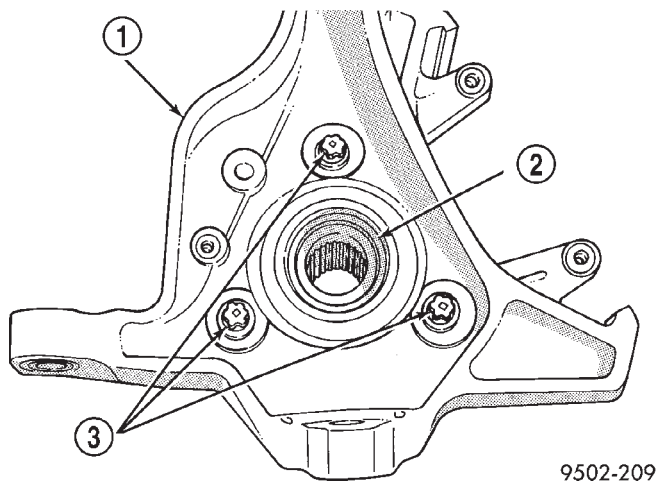

Fig. 39 Hub/Bearing Attaching Bolts
(17) Remove steering knuckle from vehicle.
(18) Mount steering knuckle securely in a vise.
(19) Remove the 3 bolts (Fig. 39) attaching the hub/bearing assembly to the steering knuckle.
(1) Thoroughly clean all hub and bearing assembly mounting surfaces on steering knuckle.
(2) Install the replacement hub and bearing assembly in steering knuckle aligning bolt holes in bearing flange with holes in steering knuckle.
(3) Install the 3 mounting bolts (Fig. 39) and tighten evenly to ensure bearing is square to face of steering knuckle. The tighten the 3 mounting bolts (Fig. 39) to a torque of 110 N·m (80 ft. lbs.).
(4) Slide drive shaft back into front hub and bearing assembly.
(5) Install the steering knuckle on the lower control arm ball joint.
(6) Install the steering knuckle to lower ball joint castle nut.
(7) Install upper ball joint stud in steering knuckle.
(8) Install the steering knuckle to upper ball joint stud castle nut.
(9) Using a crow foot and torque wrench, tighten the upper and lower ball joint castle nuts to the following torque specifications.